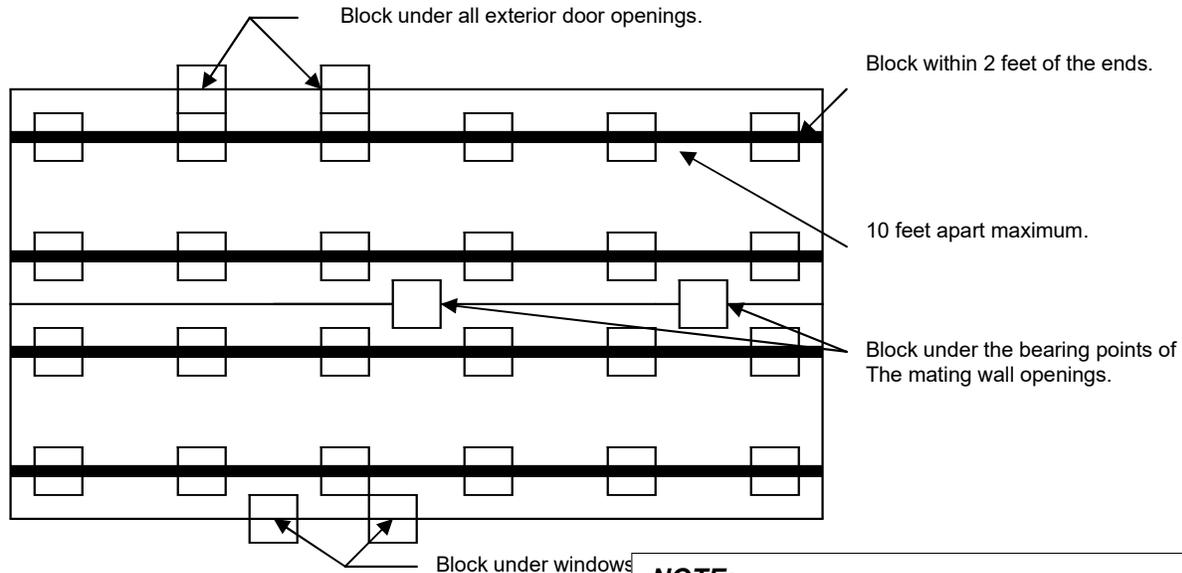

Figure 3
- They also must be placed under each side of every exterior door, under each side of windows that are more than 4 feet wide and under bearing points of the mating wall opening. See Figure 3 below.